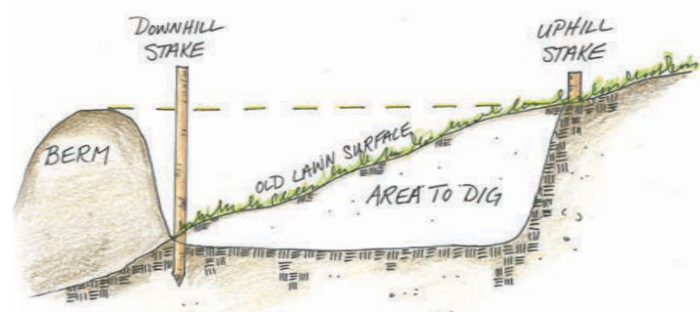

Figure 2. Where to dig and how to create the berm on a sloped site.
- a. On a Slope: If the rain garden is on a slope, a berm will be needed. The sod and soil material excavated from digging the garden should be reserved to build the berm (Figure 2).
STEP 4 – Set the berm height. Once you are close to having the entire garden area dug down to the “total depth to dig,” hammer stakes along the perimeter of the rain garden about three to four feet apart, starting with the highest edge and working around the garden. Attach a string to the base of the highest stake. Use a string level to mark that height on each stake around the perimeter of the garden. This will be your berm height. Tie a string from the stake to stake at that level to guide you while building the berm. See Figure 2.